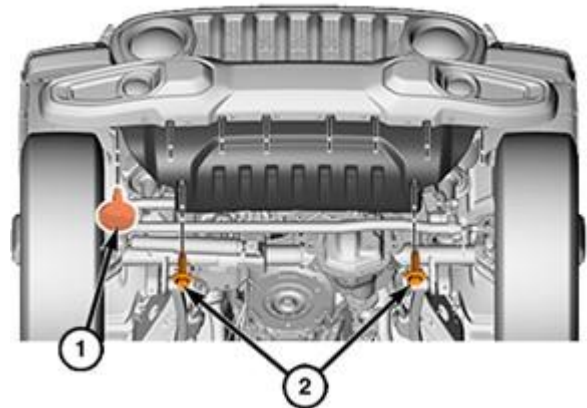

Figure 10 – Air Dam Fasteners
19. Remove the eight push pin fasteners from the front air dam (1) (Figure 10).
20. Remove the bolts (2) (Figure 10).